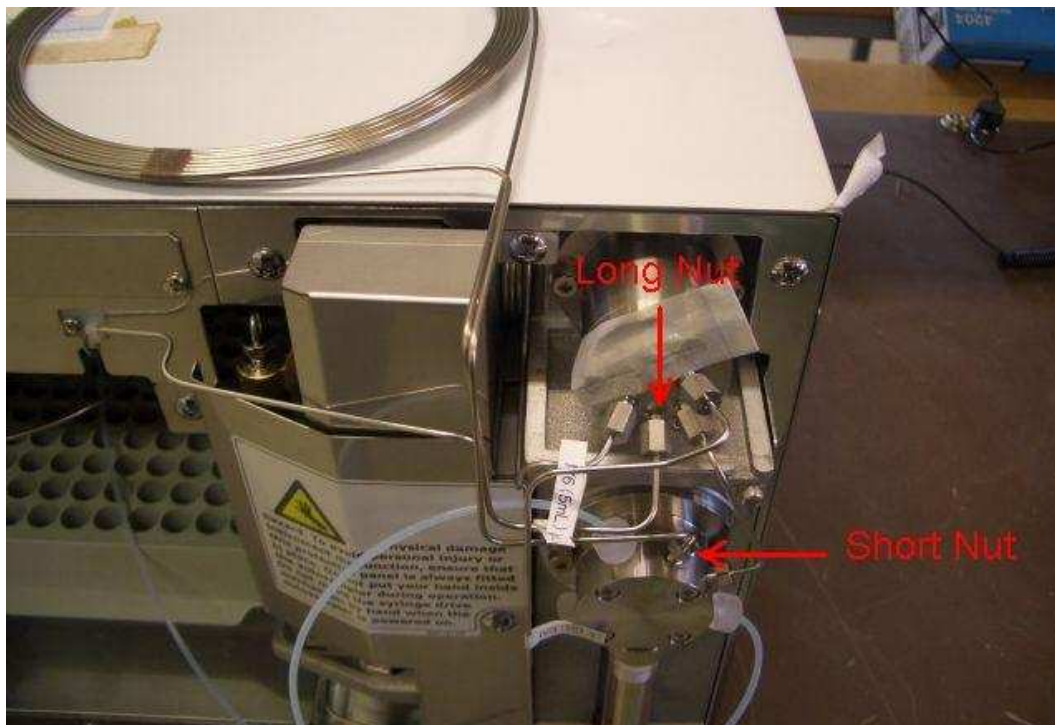

Figure 11: Long Nut and Short Nut Connection to the Injector top
5. Fit the Connecting Coil in place making sure to fit the Long Nut to position **5** on the Injector (top) Valve. Fit the Shorter Nut to position **3** on the Syringe (bottom) Valve (*Fig. 11*).